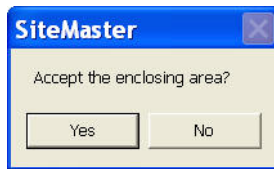

Figure 12-21. Confirmation Window
2. Click to select any line that forms an enclosed area or click on an enclosed area made up of lines or strings. A confirmation message appears (Figure 12-21).